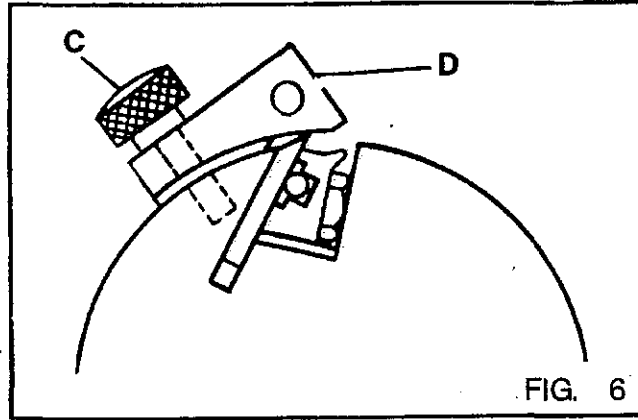

FIG. 6
- 1) Turn the cutterblock to approximately the position shown in FIG. 6 and loosen the M12 hexagon head screws, carefully remove knife from cutterblock.
- 2) To re-set the knives the cutterblock should be in the approximate position shown in FIG. 6. Place the knife in between wedge and cutterblock with the blade drawn forward slightly.
- 3) Carefully secure the knife setting device 'C' FIG. 6 (which when not in use is secured to the left side base top cover) to the cutterblock with the two knurled locking screws 'D' as shown in FIG. 6.
- 4) Whilst turning these locking screws 'D' FIG. 6, knife will be lowered to correct setting which is reached when knurled screws are locked in position and knife just touches knife setting device.